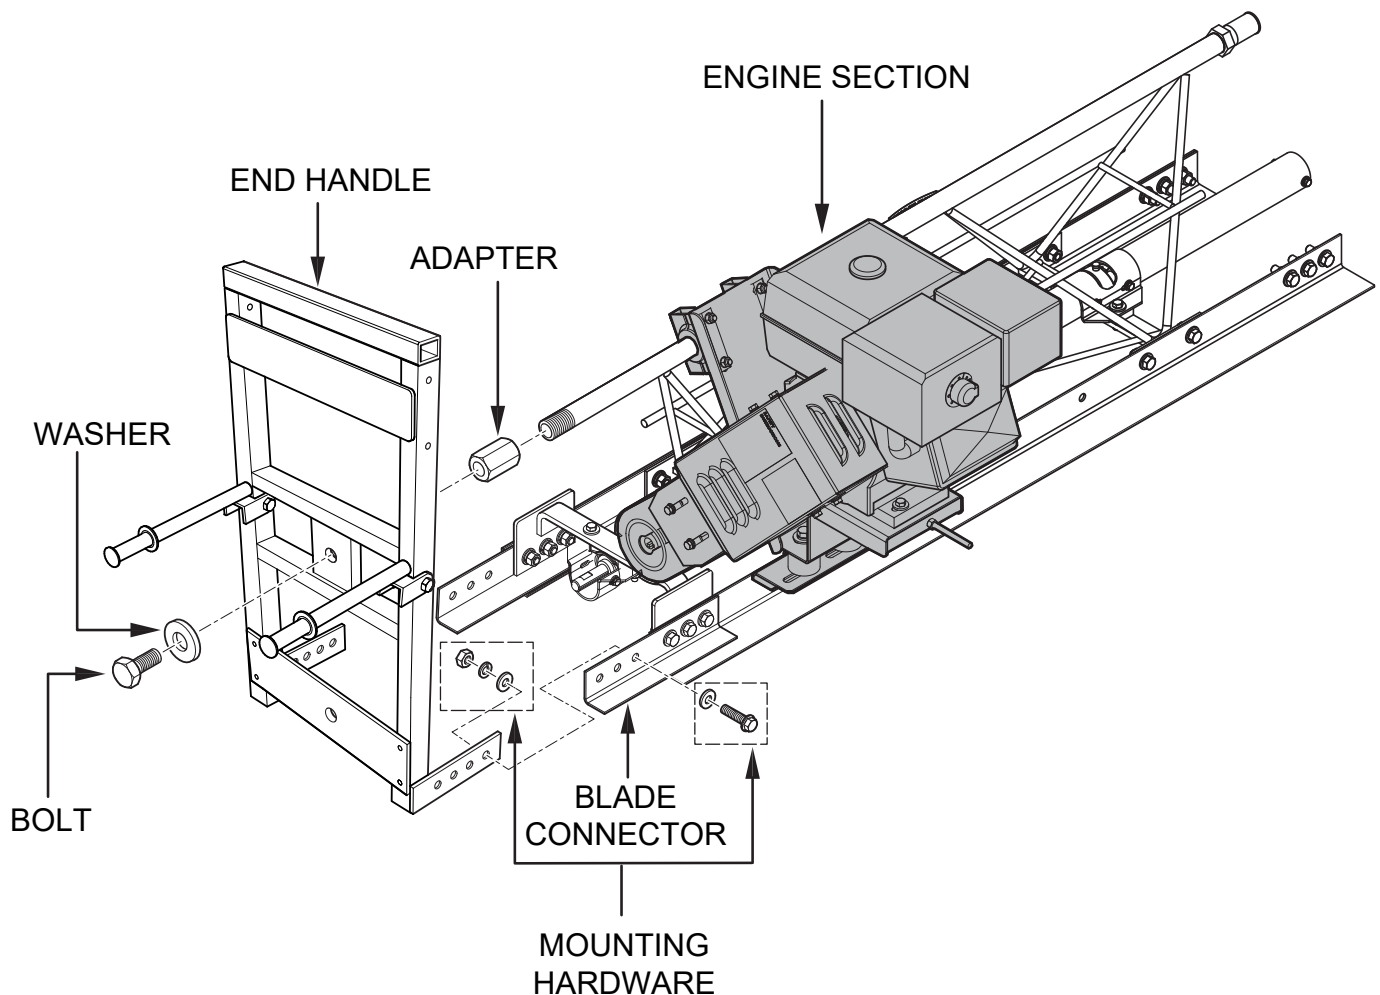

Figure 19. Mating End Handle and Engine Sections
1. The end handle and engine truss frame sections are pre-assembled. Simply connect one end of engine truss frame as shown in Figure 19.